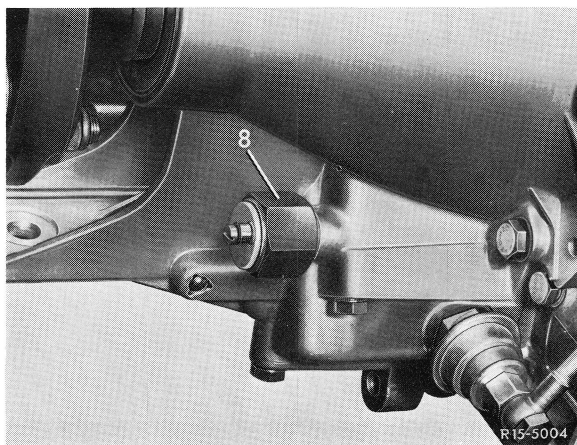

Fig. 5
1. By an oil **pressure switch** (8) on the automatic transmission (Fig. 5). The oil pressure switch is closed above 50–65 km/h ( $2.0 + 0.3$  atü) and makes a ground connection to the two-way valve (ignition advanced). The oil pressure switch is open (ignition retarded) below 47–35 km/h ( $1.5 + 0.3 - 0.2$  atü).